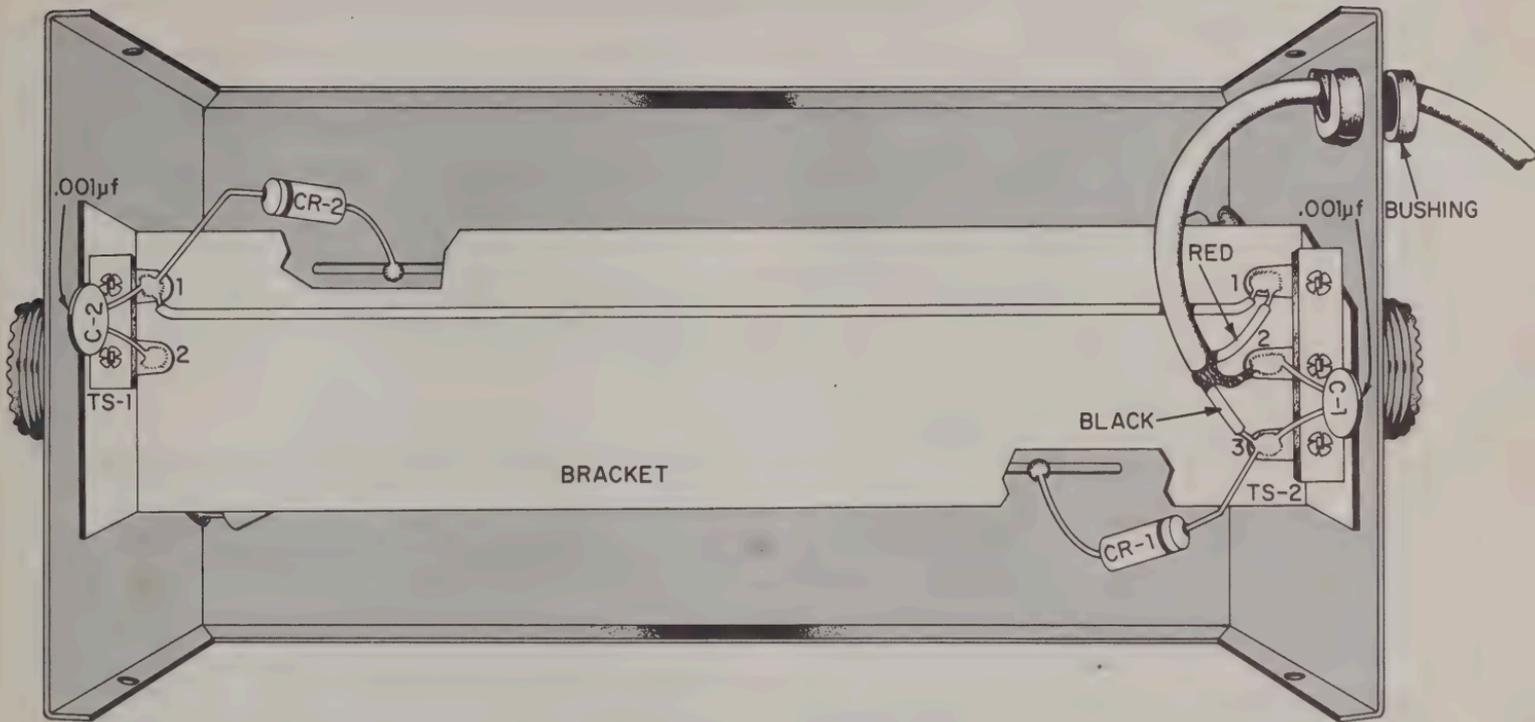

FIGURE 7. WIRING THE PICK-UP CHASSIS
SEE FIGURE 7.
- Bracket. Mount the side with the notch (as shown in Figure 7) and TS-2, a 3-terminal strip. Use a 6-32 screw, lockwasher and nut. Mount the other side and TS-1, a 2-terminal strip, with a 6-32 screw, lockwasher and nut.